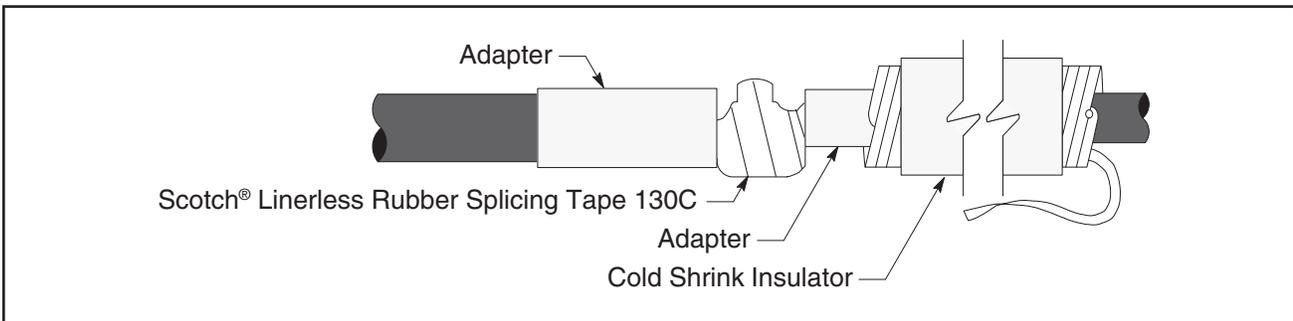

Figure 5
3.6 Slide adapters toward the bolt(s) as far as possible (*Figure 5*).